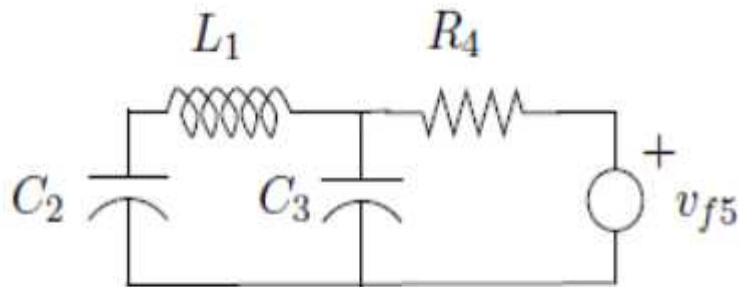

Figure 1: Electric network
- (1) Define a control system.
- (2) Give four examples of control system devices.
- (3) Define the following: Controlled Variable and manipulated variable, Plant,
- (4) Explain the following: Disturbances, and Feedback Control
- (5) State four Advantages of control systems
- (6) Consider the electric network shown in Figure 1, without using any equations, discuss how many states the system has and build a state space model.